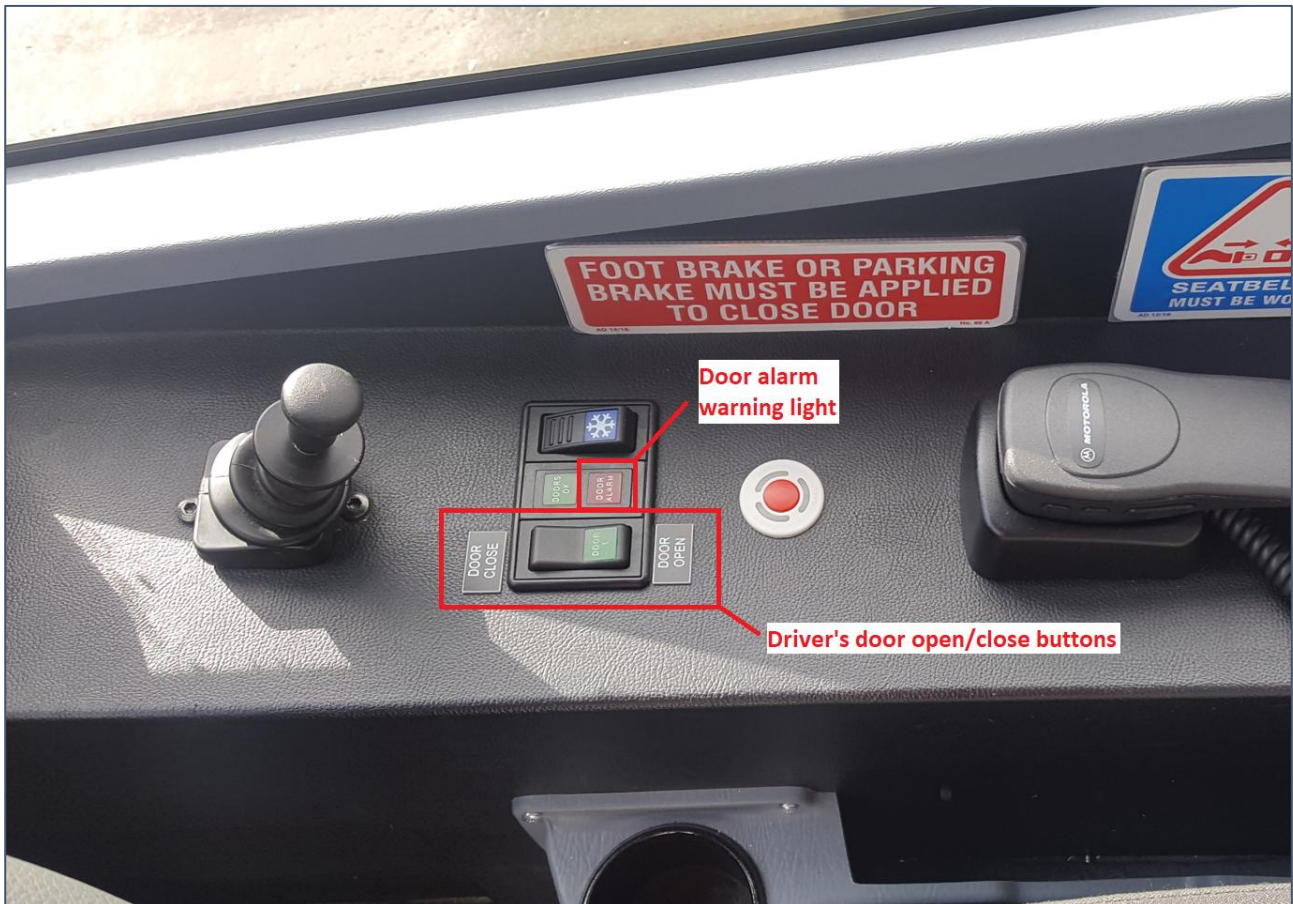

Figure 2 – Driver's door open/close buttons and door alarm warning light on Endura
- Attempt to open the front door using the driver's door open button (**Figure 2**). It should not open while driving above 5km/h. If it does, then it is likely that the park brake signal has been compromised and requires immediate rectification. If immediate rectification is required, the vehicle should not be used and should remain in a safe and appropriate location until the issue is resolved.
The update will activate the *door alarm warning light* and *buzzer* if the door safety system detects an errant park brake signal while the vehicle speed is over 5km/h. (**Figure 13** for Optimus, and **Figure 2** for Endura.)